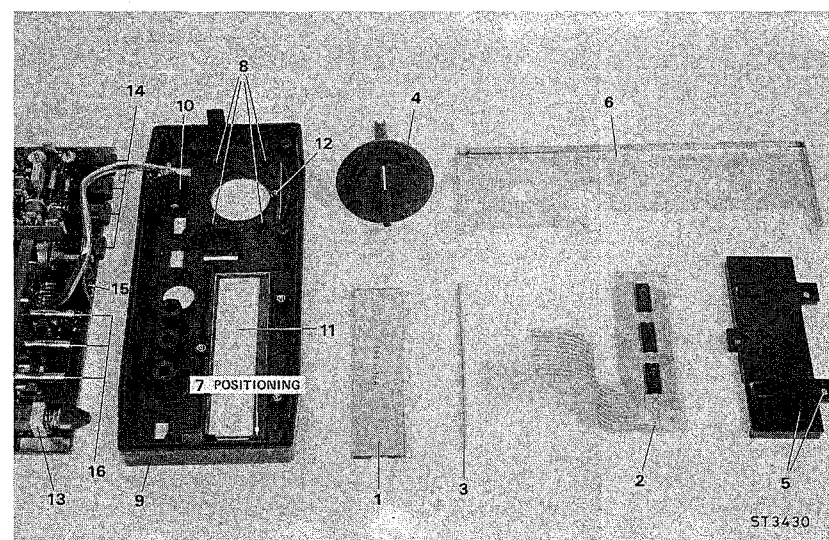

Fig. 44. Front assembly
### 2.2.1. Liquid crystal display (fig. 44 item 1), display unit N3 (fig. 44 item 2), interconnection rubber (fig. 44 item 3) or function knob (fig. 44 item 4).
- Remove the six screws and the screening plate of the front assembly. (fig. 44 item 6).
- Remove the function knob by bending out the four hooks of the front plate. (only for replacing the function knob) (fig. 44 item 8).
- Remove the three screws from the display unit cover and the cover itself. (fig. 44 item 5).
*NOTE 1: Make sure that the L.C.D., the display unit cover and the interconnection rubber are placed in the most right hand position. (fig. 44 item 7).*